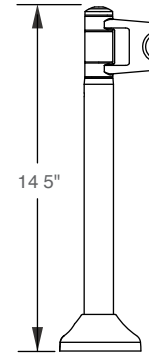

Figure 5.3 Slim Post, Top Mounted
- The height of the Slim Post is dependant on the bracket. When combined with a Top-Mount Bracket, the Standard Post will be 3.1" shorter than when used with a Bracket-Mounted Arm. This is because Top-Mounted Arms provide an extension of the post itself. See figures 5.3 and 5.4.